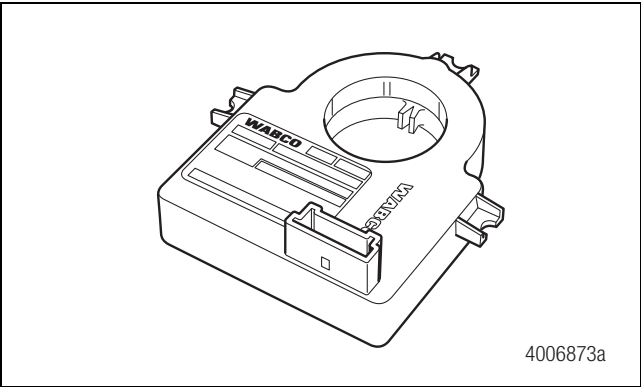
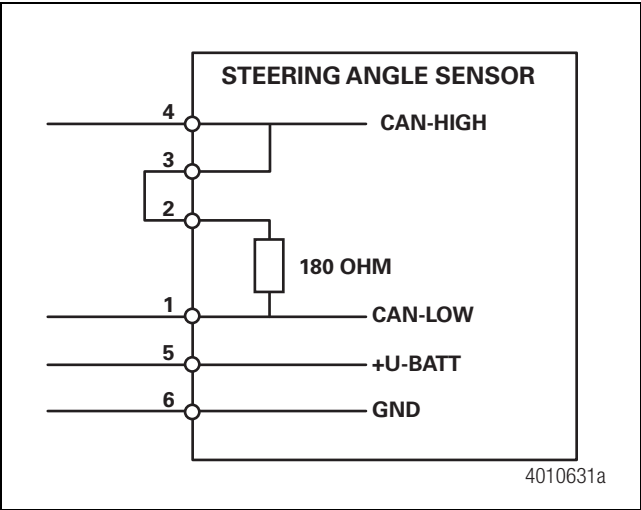

Figure 3.39
Figure 3.40
- Disconnect SAS and check terminating resistance across Pin 1 and Pin 2 of the SAS. Figure 3.39 and Figure 3.40.
NOTE: For correct sensor operation, there must be a jumper wire on the harness side across either Pin 2 to Pin 3 or Pin 4 so terminating resistor is connected as shown in Figure 3.40.